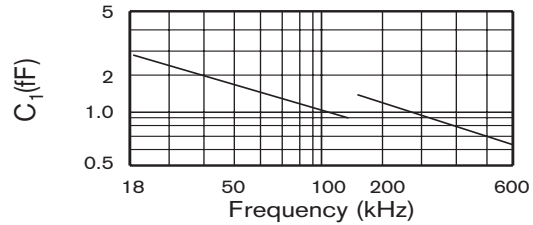

FIGURE 3
Quality Factor (Q)	Figure 3 MIN is 0.25x Typ